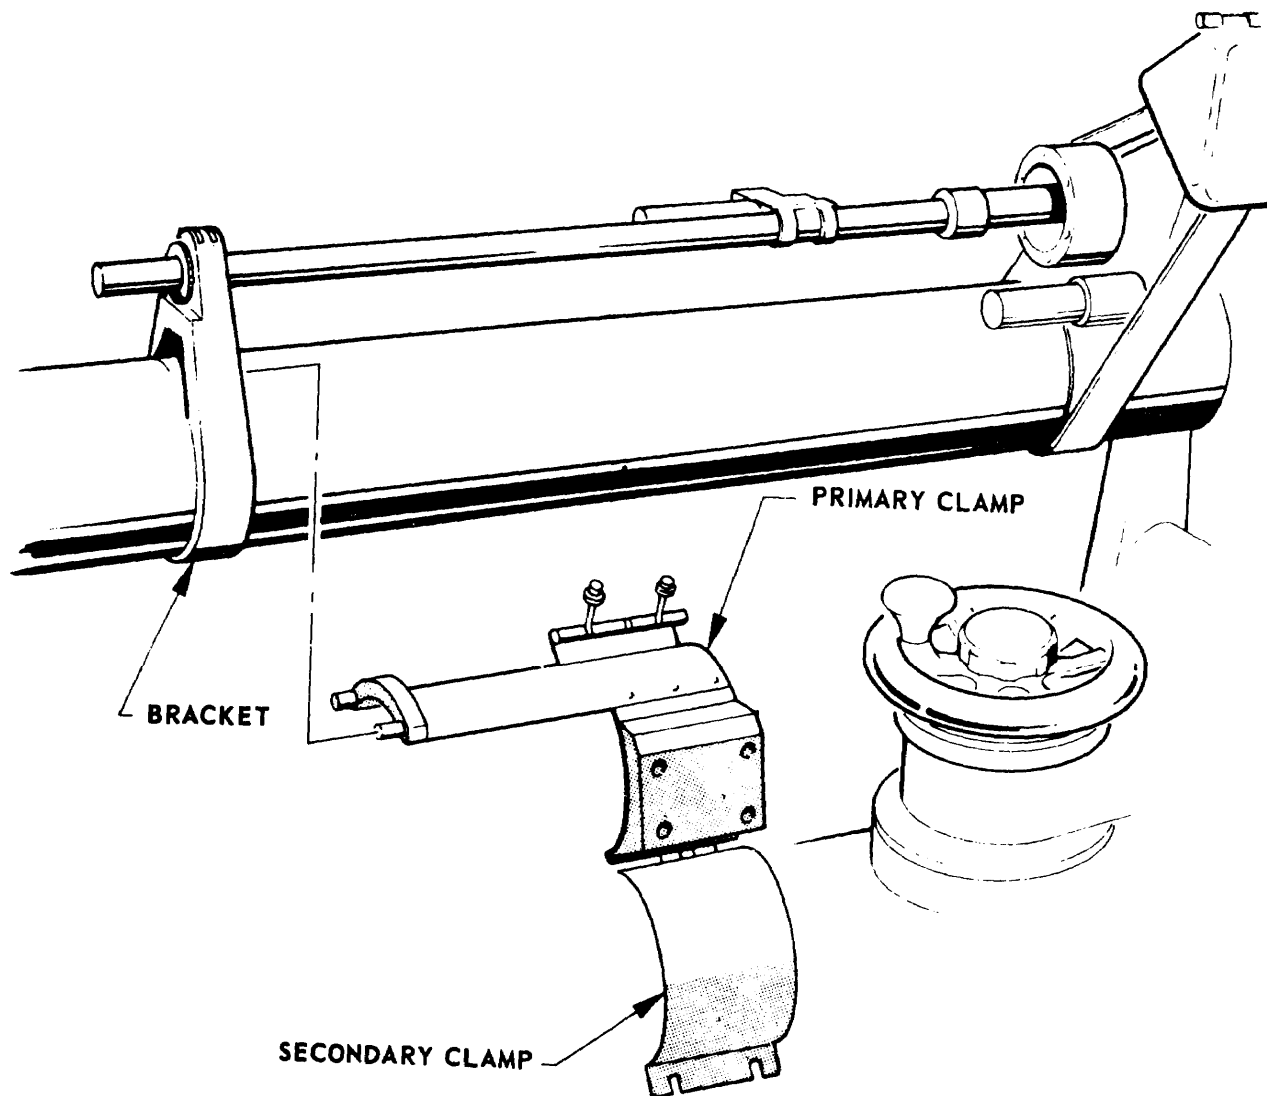

Figure 9. Weapons adapter bracket installation on the 106-mm recoilless rifle.
**19. Installation of Weapons Adapter Bracket and Sight on 106-MM Recoil less Rifle M40A1 (Figs 9 through 11).** The weapons adapter bracket and the Sight are mounted on the 106-mm recoilless rifle as follows: